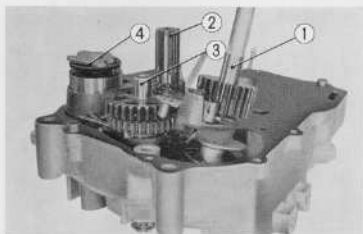

Fig. 3.96 Removing the kick starter spindle
① Gear shift guide pin clip
② Gear shift fork
6. Pull out the kick starter spindle, ① (Fig. 3.96)